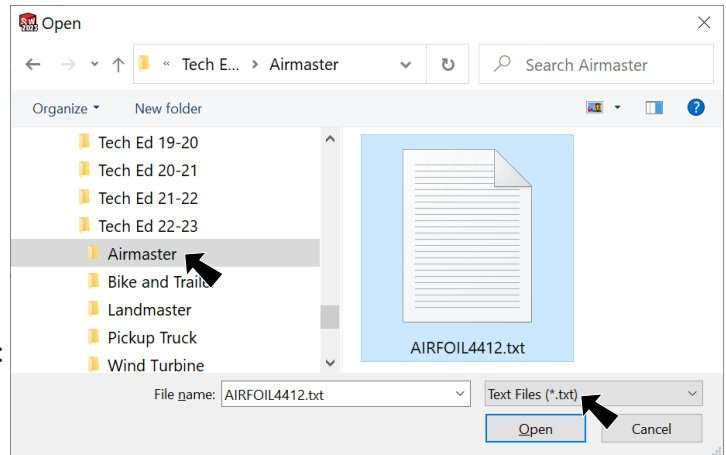

Fig. 14
Step 5. In the Open dialog box: change **file type to txt**, Fig. 14 select your txt file from Excel click **Open**